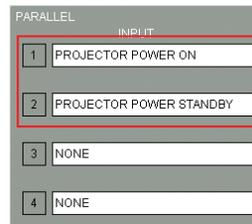

Fig. 6 PARALLEL/PROJECTOR CONTROL Screen
2. Select PROJECTOR POWER ON on the PARALLEL/PROJECTOR CONTROL screen. This selection appears on a drop-down list on INPUT 1. Then select PROJECTOR POWER STANDBY on the PARALLEL/PROJECTOR CONTROL screen. This selection appears on a drop-down list on INPUT 2 (Fig. 6).